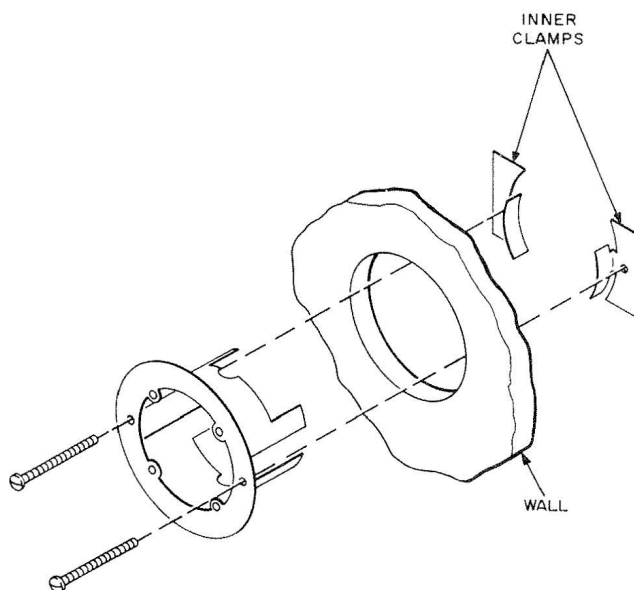

Fig. 16—KS-19407, L1 Bracket
3.15 The KS-19407, List 1 bracket (Fig. 16) can be used for wall mounting 47-type connecting blocks where the wall material has been applied to the studs. The bracket can be used on wall material up to 1-1/8 inches thick. For thin wall construction, it may be necessary to remove the breakoff portions of the bracket.